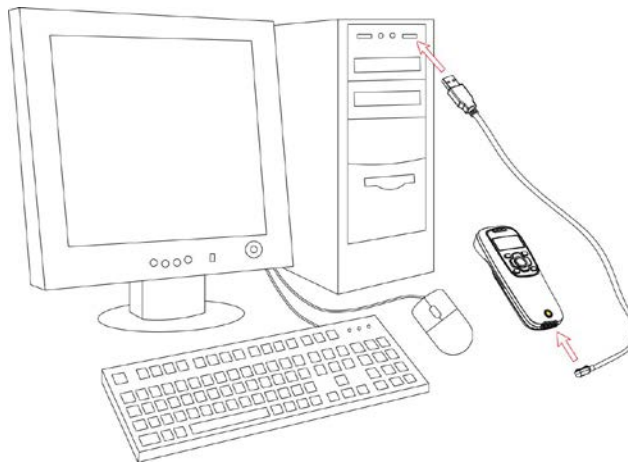

Figure 2-1 Diagram of connecting the terminal to PC
1. Refer to Figure 2-1, plug one end of the USB cable to the terminal. Plug the other end into the USB port of the computer.